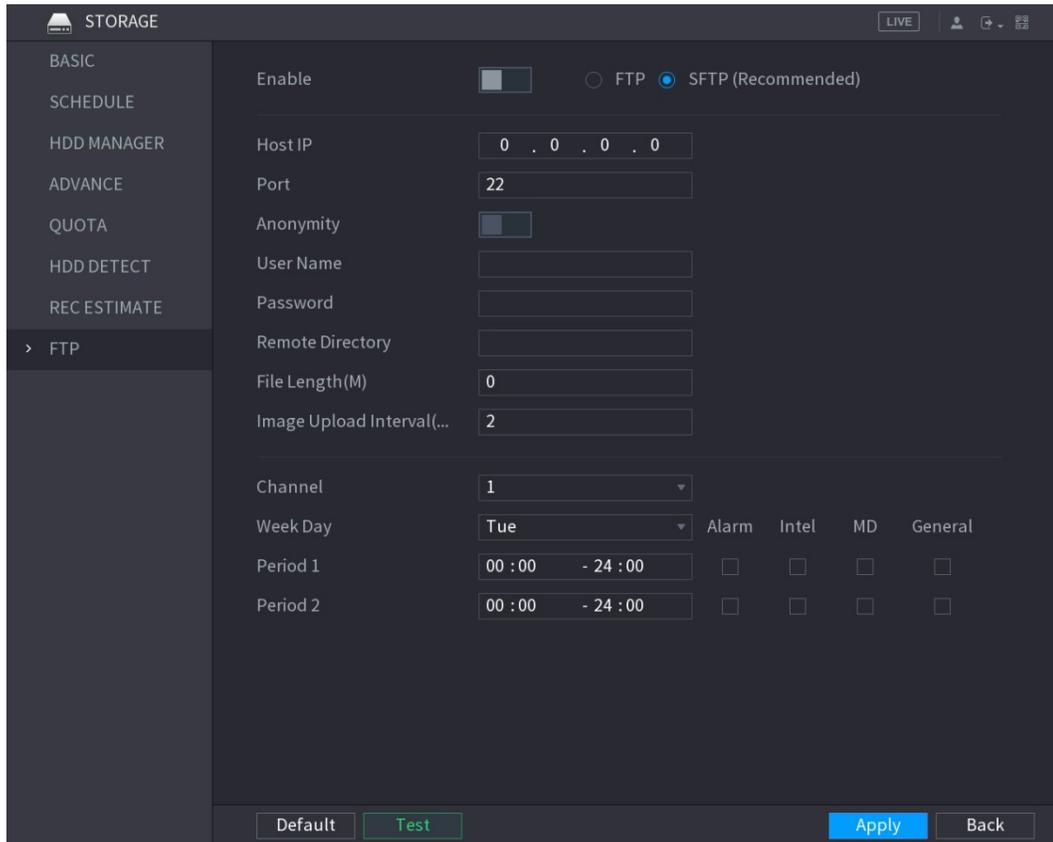

Figure 5-238
**Step 1** Select **Main Menu > STORAGE > FTP**. The **FTP** interface is displayed. See Figure 5-238.